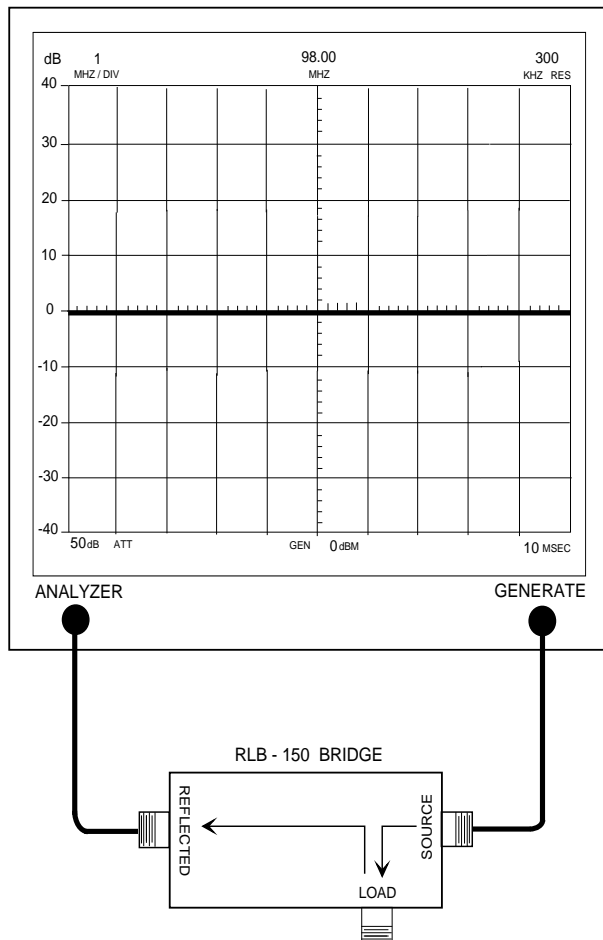

Figure 7: Setting the return loss reference.
1. A zero reference for return loss must be established at the IFR A-7550 prior to checking the passband frequency. This is done by connecting the return loss bridge to the analyzer/generator as shown in figure 7.